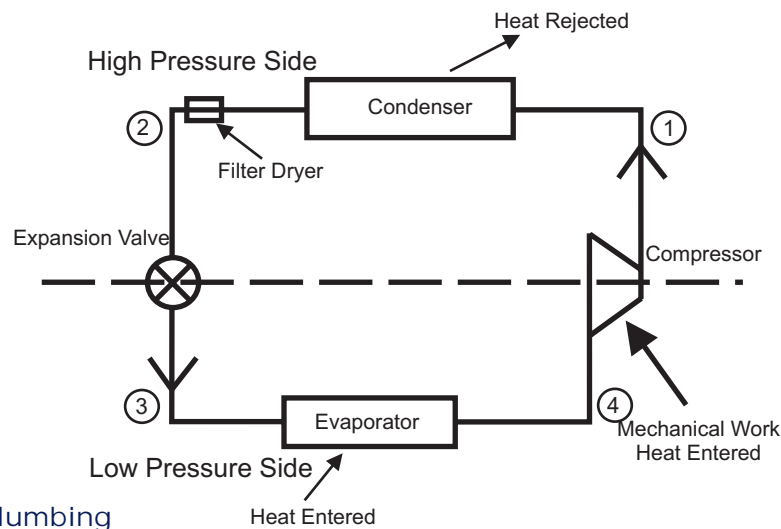

Figure 2 - General Plumbing
12. Refer to Figures 2 - General Diagram, for general plumbing.